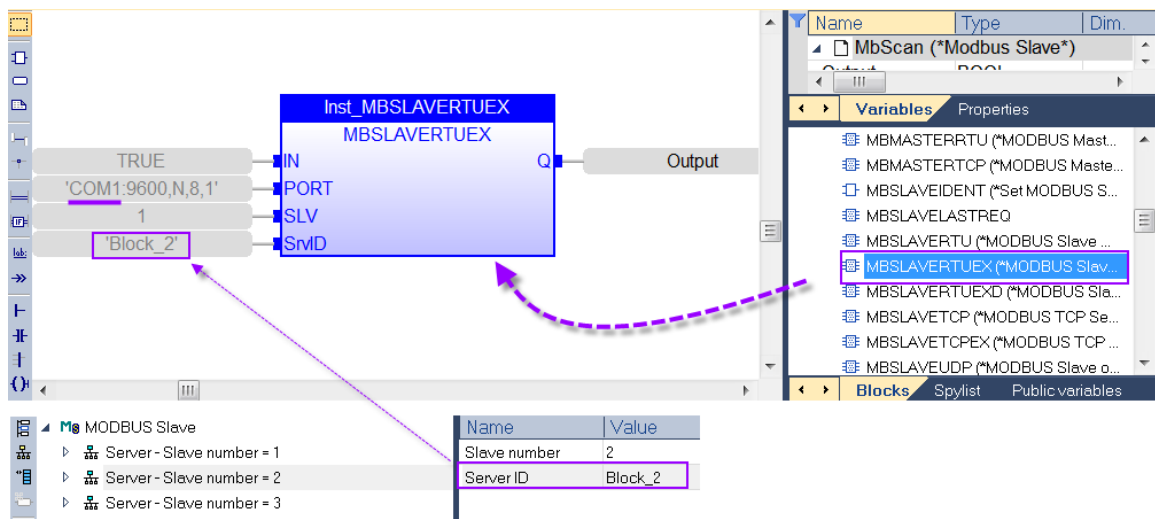

Figure 143: Set data block 2 as a Modbus RTU slave
- Configure data block 2 as a Modbus RTU slave with slave number 1 and communication via COM1 port (Figure 143):